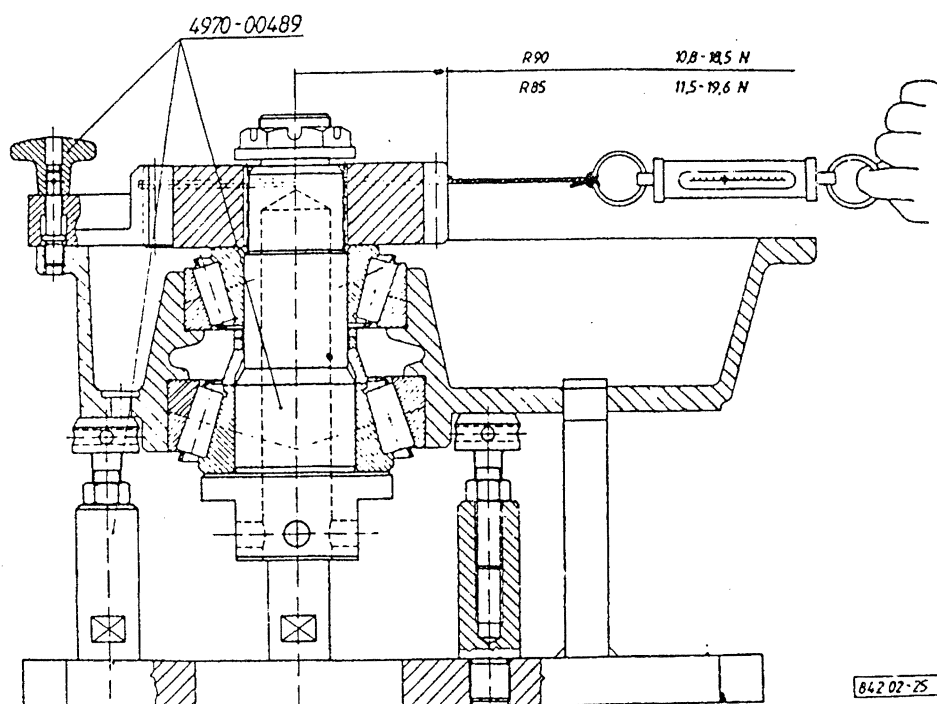

Fig. 4.: ADJUSTING THE BEARING PRELOAD
The distance between the outer taper roller bearing cone and the distance sleeve may vary between **13.890 to 14.715 mm**. For selecting the proper distance ring (10) this distance should be determined by measurement (X in Fig. 4.).
Position the inner taper roller bearing cone, the distance sleeve (11) and distance ring for filling the gap determined by measurement to the shown master shaft, then the subassembled differential carrier II, the outer taper roller bearing cone and the driven gear (50). Position the washer (2) and screw on the flanged castle nut (1) (Fig. 4.).
Tighten the nut to **540 - 590 Nm** torque and position the subassembled unit to the shown stand (Fig. 4.) and measure the rolling torque by means of fish-scale attached with cord to mantle of the driven gear (50).
Position the drive pinion subassembled in this way to stand of the adjusting device, secure the driven gear by lock of the device shown in **Fig. 4.** and tighten the self-lock nut to **540 - 590 Nm** torque.